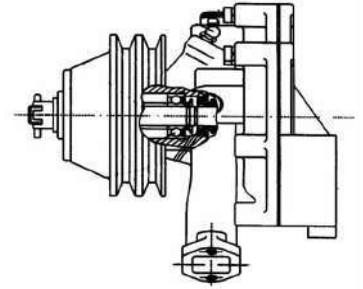

Fig 5-45 Connection between Water Pump and Cylinder Block
6.1 Connect water pump with cylinder block by bolts, after installing, move V-belt pulley freely without block (see Fig 5-45).